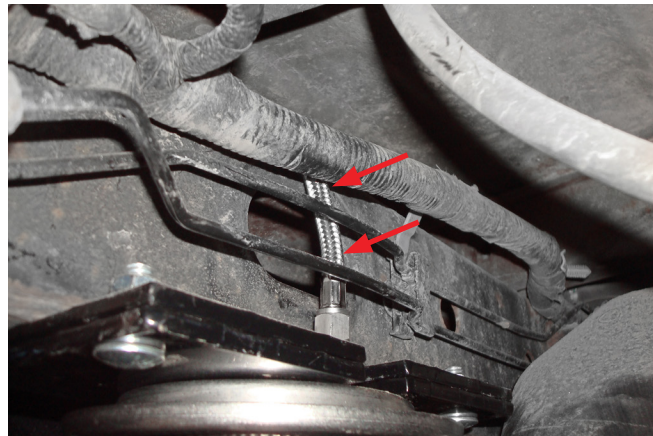

Fig. 23
5. Raise the axle assembly or lower the frame of the vehicle. Remove the safety stands and wheel chocks. On the inside frame of the driver's (left) side above the air spring assembly, make sure that the brake lines and wiring harness are not rubbing on the steel braided air line (Fig. 23). If they are, carefully bend the brake line away from the air line to obtain clearance. For the wiring harness, it may be necessary to pry the line holder out of the frame and pull away from the air line to obtain enough clearance.